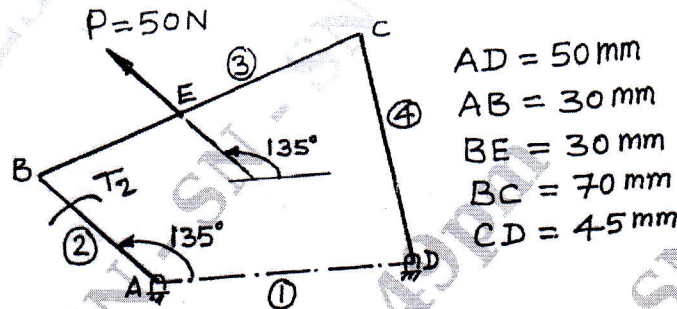

Fig.Q1(b)
- b. A four bar mechanism shown in Fig.Q1(b) has crank 2 driven by an input torque T_2 ; an external load $P = 50\text{ N}$ acting at point E on link 3. For the position shown in figure, find the magnitude and direction of torque T_2 for the linkage to be in static equilibrium.